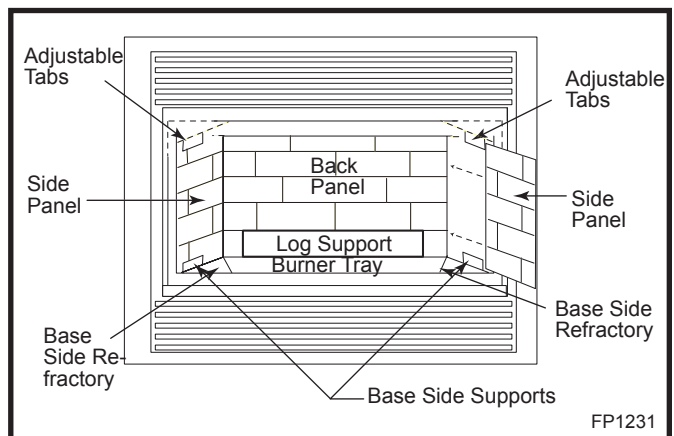

Fig. 42 Ceramic refractory installation.
6. Slide side panels into side supports and behind side tab and adjust, fitting the ceramic tight to the side of the firebox. Tighten nuts. (Fig. 42)